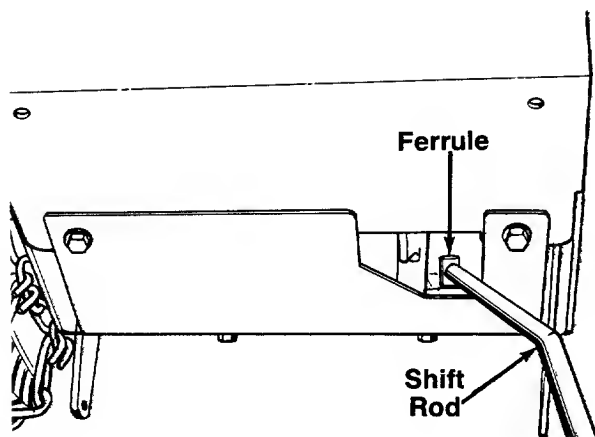

FIGURE 9.
1. Place the threaded end of the shift rod inside the back cover plate. See figure 9. Thread rod part-way into ferrule. ←